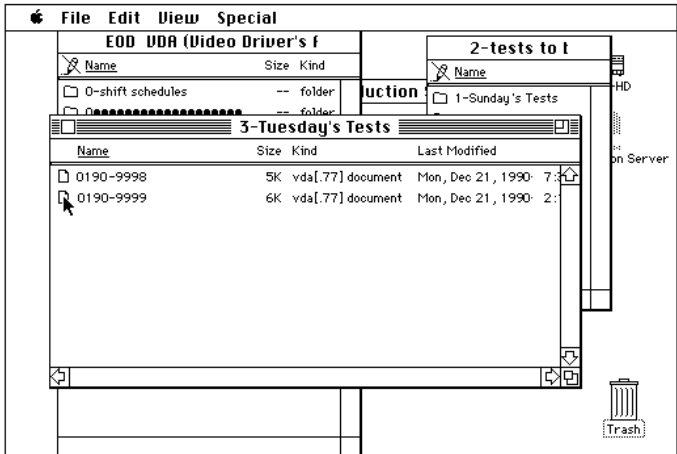

Figure 10
- Position the mouse pointer in daily tests window on the appropriate test number and double click to open it . See Figure 10. If the test number cannot be located, notify the VT senior technician.